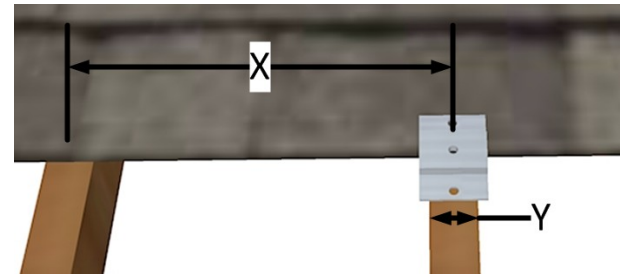

Fig. 1
1. Locate a rafter and make note of the center to center distance between rafters (X) and thickness of structural members (Y) (See figure 1). One option to locate member is to drill from inside the attic through the roof. Another options is to drill pilot holes on roof until member is found. **Immediately caulk any pilot hole that is not on a rafter to prevent roof leaks.** Keep the SE_0214 document on hand during the installation process. It will be needed throughout the installation process.